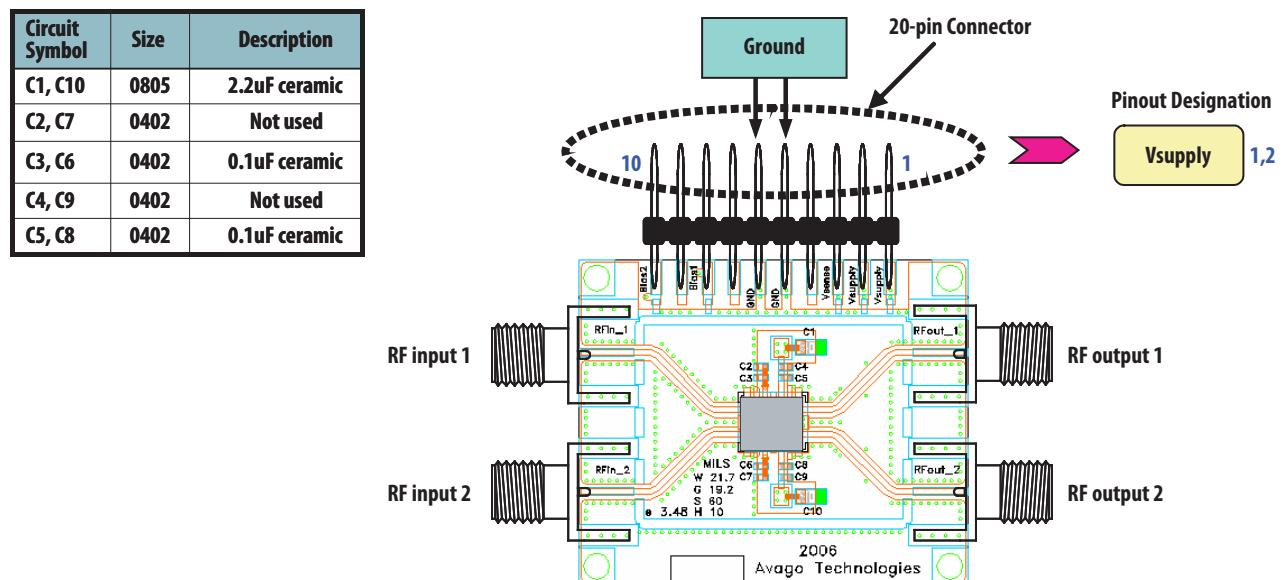

Figure 5. Demo Board Layout Diagram
$T_A = 25^\circ\text{C}$ ,  $V_{dd} = 5\text{V}$  @ 280mA, RF performance at 2.0 GHz, given for each of the 2 RF paths, measured on demo board (see Fig. 5) unless otherwise specified.
7. Measurements at 2GHz obtained using demo board described in Fig 5.